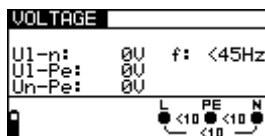

Figure 5.46: Voltage and frequency measurement menu
Step 2 Follow the connection diagram shown in figure 5.46 to perform voltage and frequency measurement.